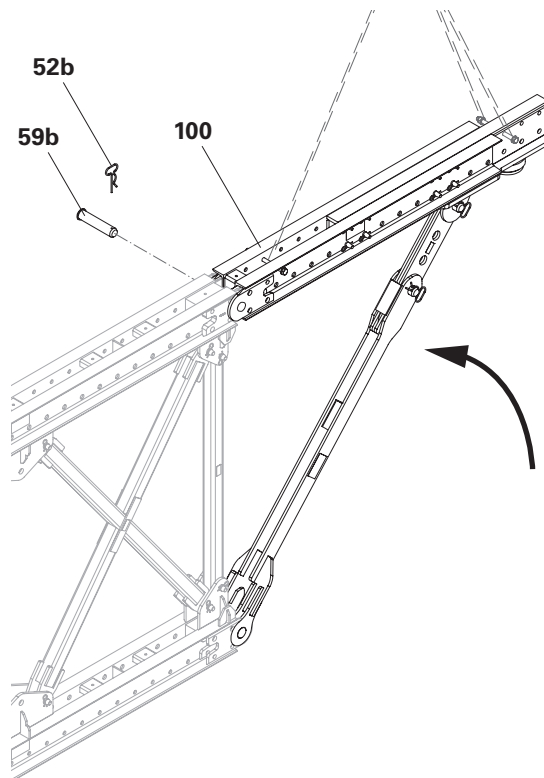

Fig. H1.07
4. Bolt the Bearing Frame VBR (**100**) with bolt $\varnothing 50 \times 250$ (**59b**) into the top chord of Coupling Joint Frame 1.5 m VBR (**101**) and secure with cotter pin 6/1 $\varnothing 50$ VRB (**52b**). (Fig. H1.07)